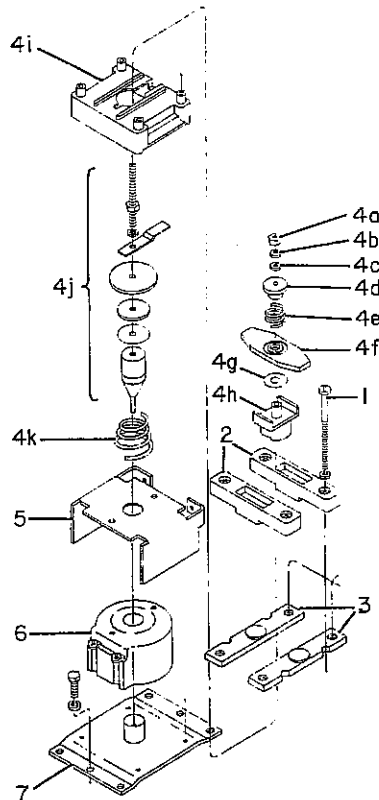

Fig. 3. Assembly of single-pole, single-throw type
(Refer to Fig. 3, page 2 for exploded view and parts index).
6. Loosen and remove the 10-32 nut from the armature and movable contact assembly using a 3/8-inch socket or nut driver. Note the order in which the parts are removed from the stud. See Fig. 3, page 2.